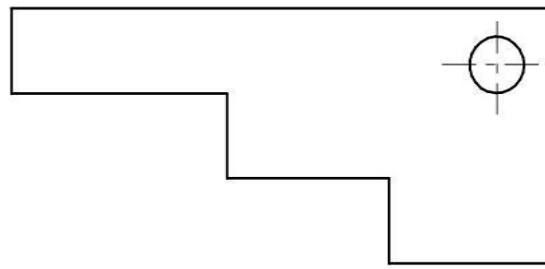

Fig.4
- Copy Fig.4 to 2:1 Scale and dimension it using Aligned system with Chain dimensioning.